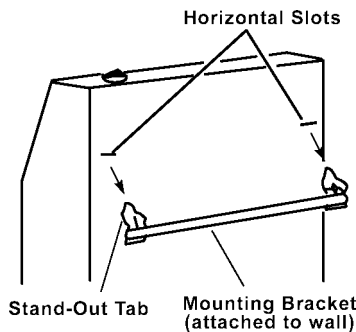

**Figure 10 - Popping Open Anchor Wing For Thin Walls**
4. For thin walls (1/2" or less), insert red key into wall anchor. Push red key to "pop" open anchor wings. (see Figure 10).